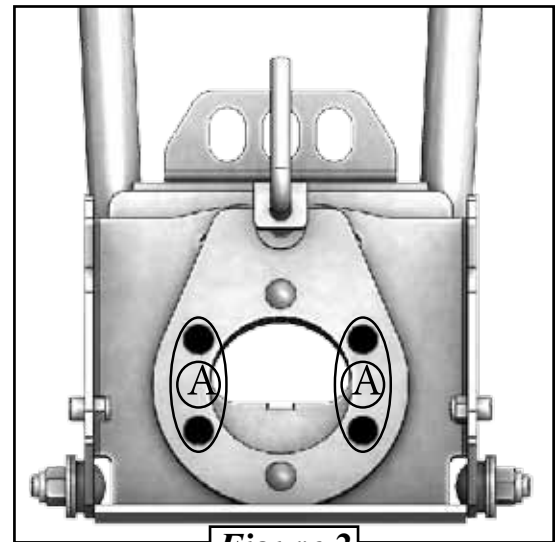

Figure 2
1. Remove the four 3/8" carriage bolts (A) as shown in Figure 2.